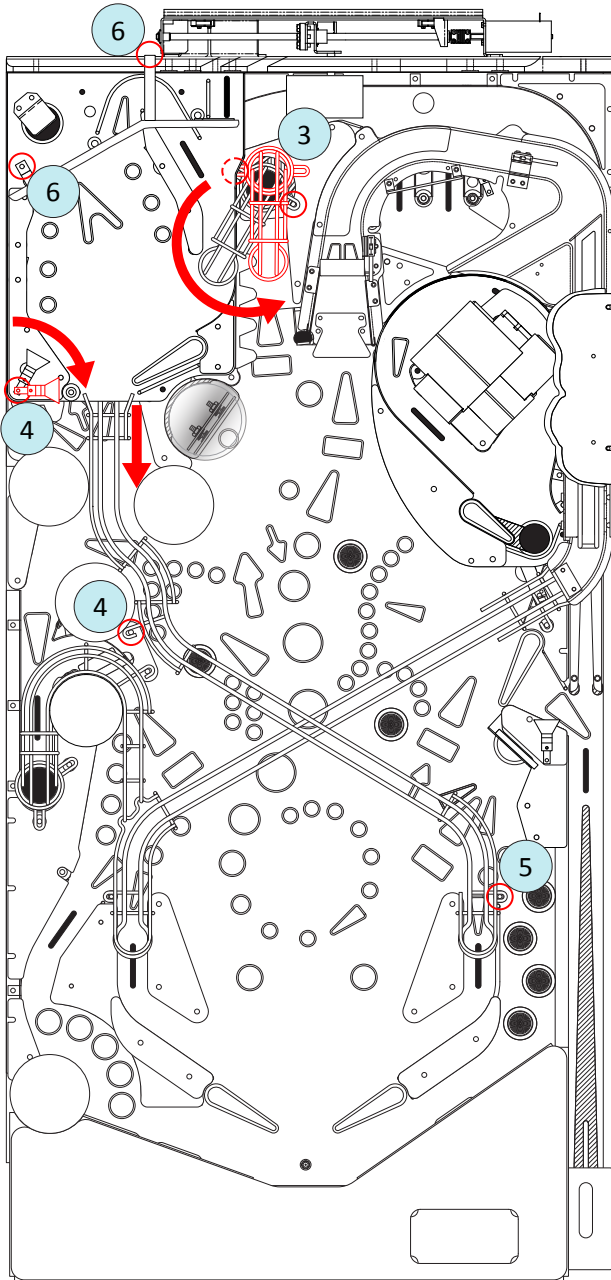

Figure E2. Castle playfield removal, illustration 2.
3) Using an 11/32" nutdriver, loosen the left-side locknut on the winkie guard VUK wire guide until it is near the top of its threaded post (see figure E2). Completely remove the right-side locknut and the flat washer underneath it (a magnetic pickup tool can be used to avoid dropping the loose pieces as they are removed).
4) With the same nutdriver, remove the locknut and flat washer holding the castle exit wire ramp, near the crystal ball (circled in figure E2). Loosen the locknut holding the spotlight in the lower left hand corner of the castle playfield. Twist the spotlight CW to gain access to one of the screws holding the playfield in place.
5) Using an 11/32" open-end wrench, remove the locknut and flat washer holding the end of the castle exit wire ramp next to the right outlane (circled in figure E2). Once loosened with the wrench, a nutdriver may be used to completely remove the locknut (by gently flexing the wire ramp).